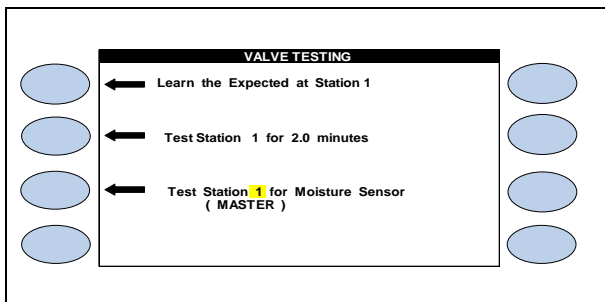

Figure 5.42
- Press the blue **ARROW** keys to move the cursor to the **TEST STATION # FOR MOISTURE SENSOR** Entry (Figure 5.42).